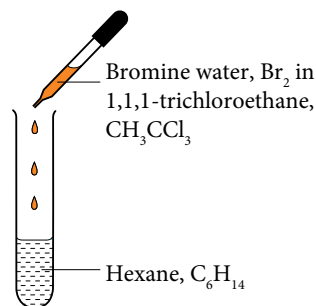

Figure 2.10
- Add 2 - 3 drops of bromine water, Br_2 in 1,1,1-trichloroethane, CH_3CCl_3 to hexane, C_6H_{14} as shown in Figure 2.10.